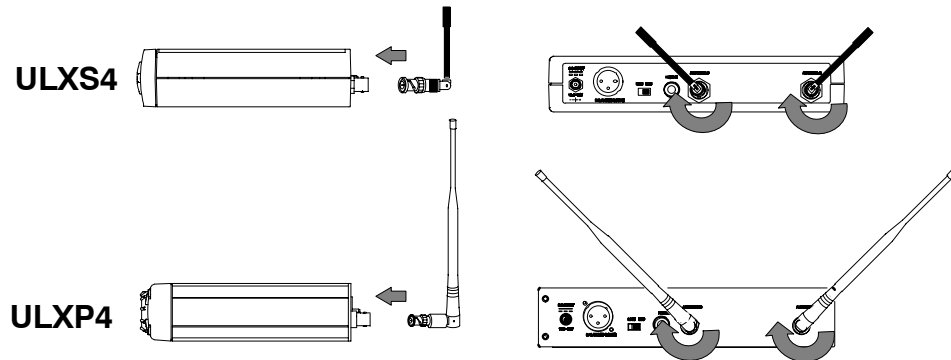

FIGURE 5
2. Attach the two antennas to the ANTENNA connectors, as shown in Figure 5. The ULXS4 is supplied with 1/4 wave antennas; the ULXP4 is supplied with 1/2 wave antennas.